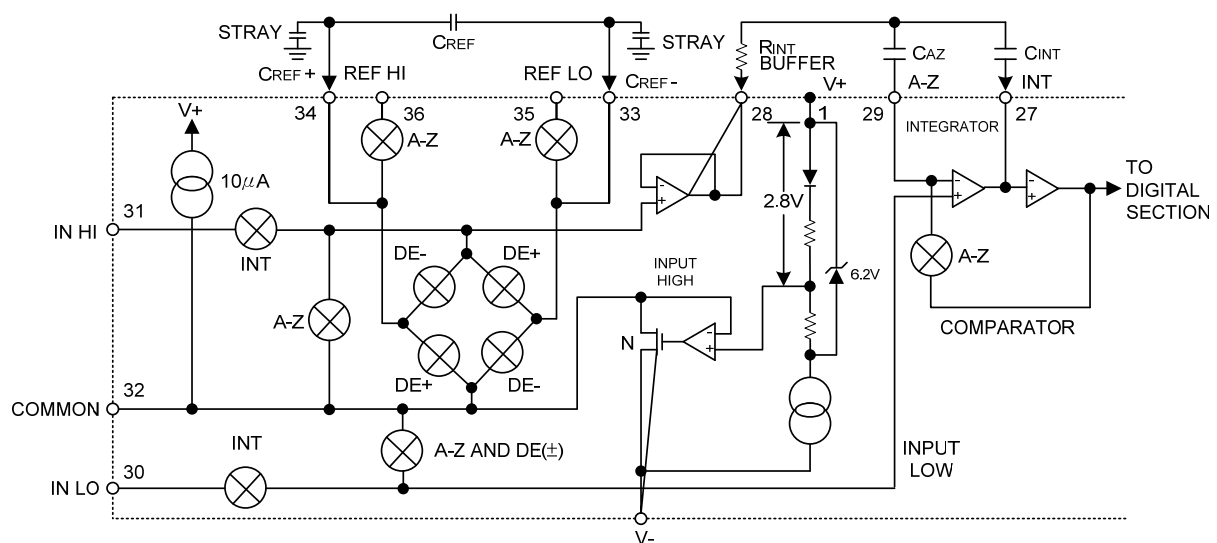

Figure 1. Analog Section
■ ELECTRICAL CHARACTERISTICS (Ta=25°C, f_{CLOCK}=48kHz, measured by the circuit of Figure 1.)
Figure 1 shows the Analog Section for the UTC **7106**. Each measurement cycle is divided into three phases. They are (1) auto-zero (A-Z), (2) signal integrate (INT) and (3) de-integrate (DE).